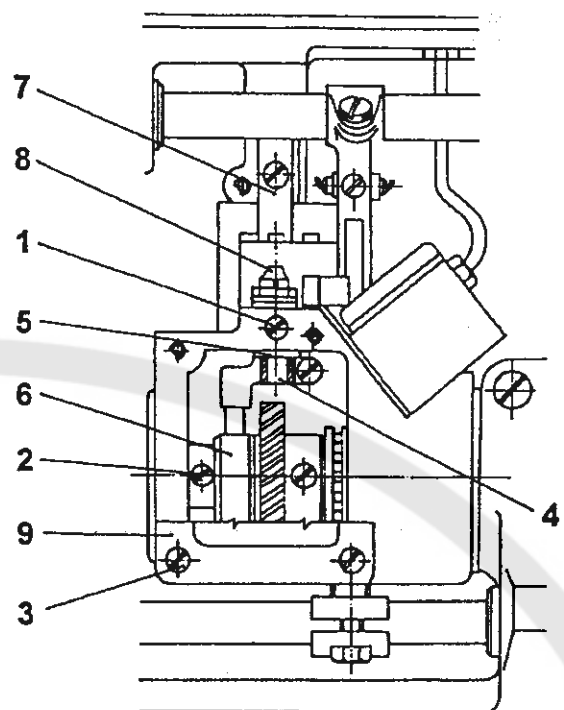

Fig. 9
13. To adjust the hook opening (Fig. 9)